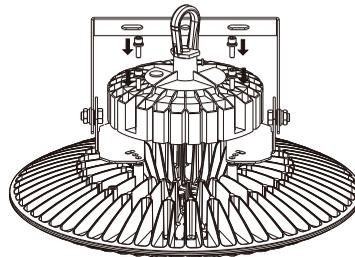

Fig. 5
2. Add the U-Bracket to the housing and align the driver's mounting holes to the holes found on the bracket. The mounting holes for the driver, bracket, and housing should all line up together. (**Figure 5**).